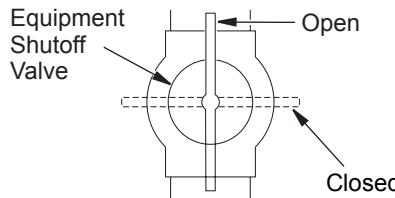

Figure 33 - Equipment Shutoff Valve
- Close equipment shutoff valve (see Figure 33).
- Open equipment shutoff valve (see Figure 33).